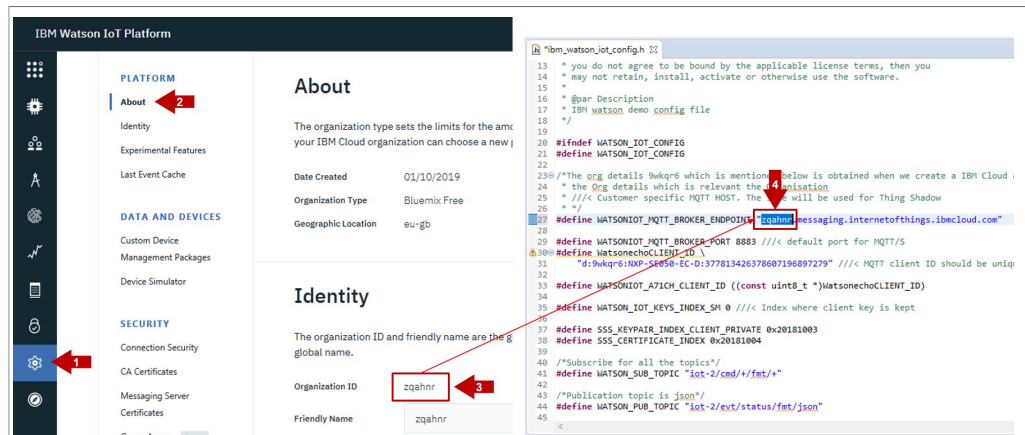

Figure 43. Update your Organization ID
2. The `#define WATSONIOT_MQTT_BROKER_ENDPOINT` macro has the following format: `organization_id.messaging.internetofthings.ibmcloud.com`. Update the `#define WATSONIOT_MQTT_BROKER_ENDPOINT` macro with the **Organization ID** assigned to your Watson IoT account as shown in Figure 43: